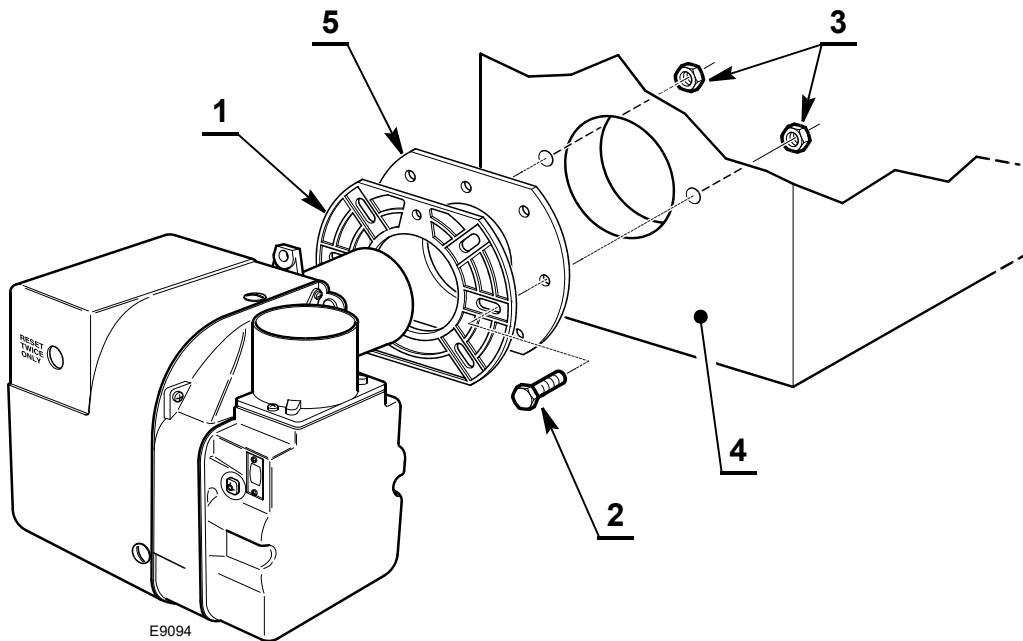

Fig. 7
- Fix the flange 1) to the appliance 4) using the supplied bolts 2) and nuts 3) with the gasket 5) in between as in Fig. 7.